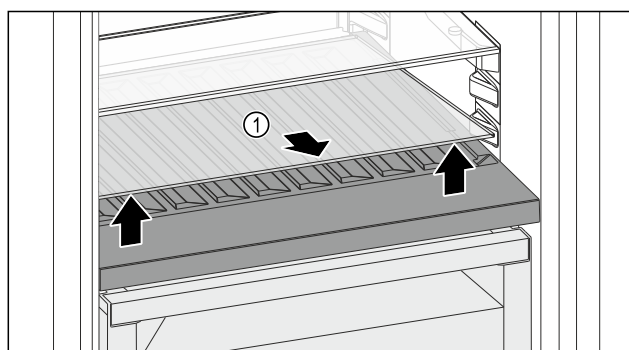

Fig. 156
- Lift the glass shelf Fig. 156 (1) at the front and remove.
- Store the glass shelf Fig. 156 (1) in a safe place outside the appliance.